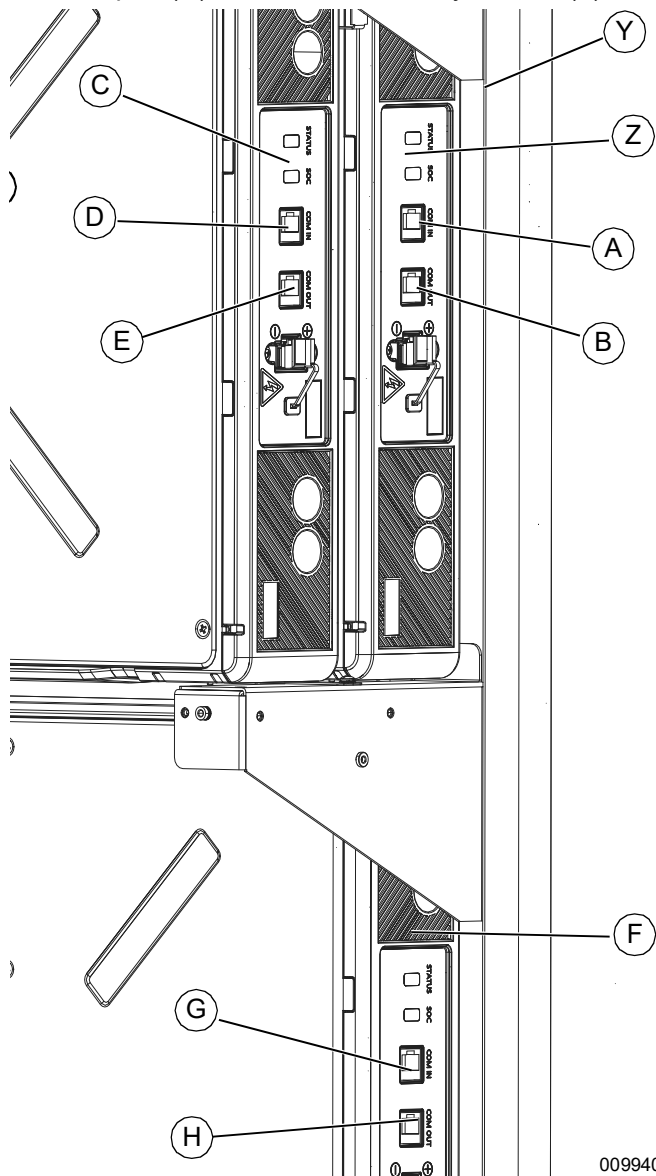

Figure 4-32. Module COM Cabling (1 of 2)
1. See **Figure 4-32**. Locate multicolored CAT 5 cables attached to battery power cable harness on body (Y) and top, rear battery module (Z).
2. Connect Gray CAT 5 cable to battery module COM IN (A)
3. Connect Black CAT 5 jumper to battery module COM OUT (B).